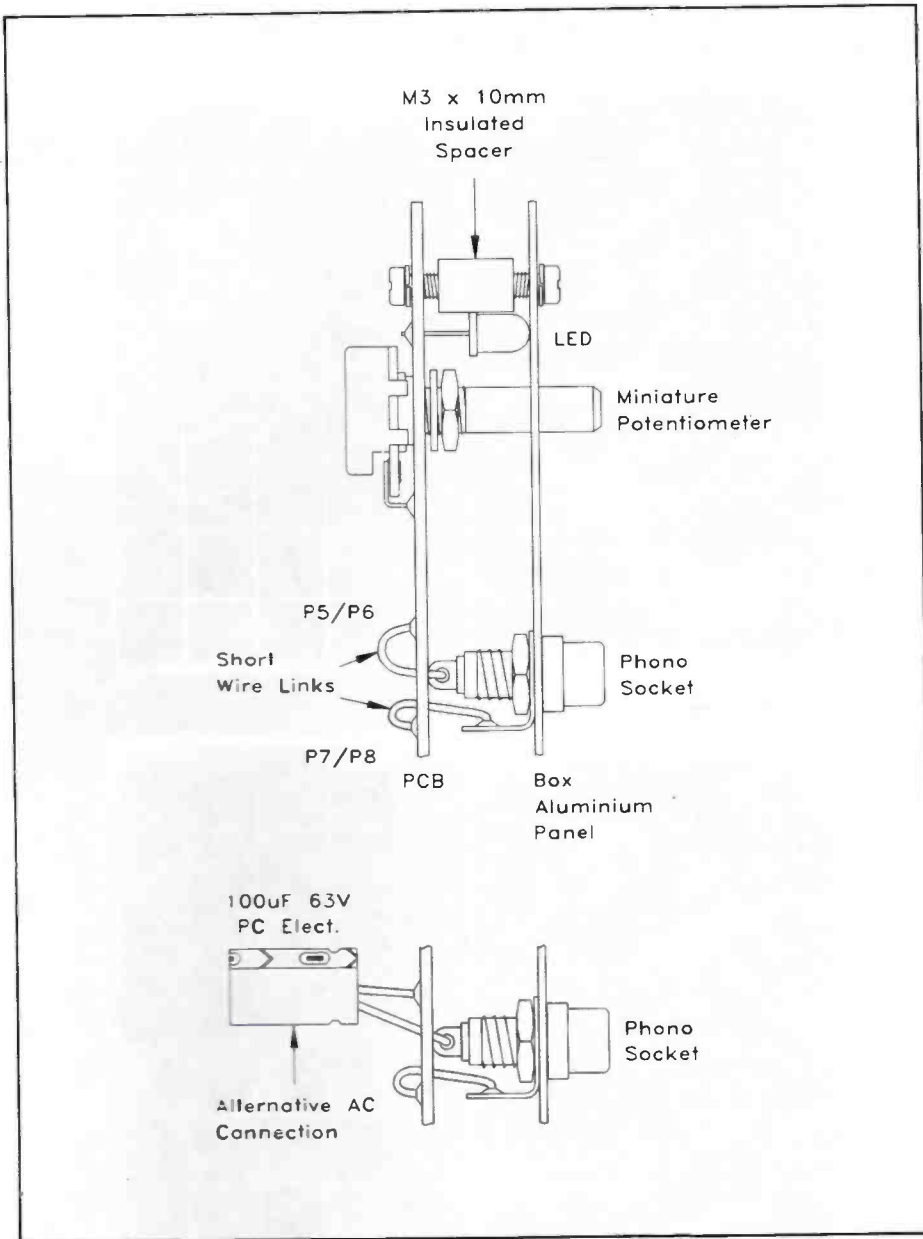

Figure 5. Mechanical assembly.
When installing the two miniature rotary potentiometers RV2 and RV6 follow the mechanical assembly information provided in Figure 5, ensuring that you fit the correct value pot at each position. When secured, bend down the tags so that they are touching the pads on the track side of the PCB and solder them as shown. The seven LEDs LD1 to LD7 are all mounted 5mm above the surface of the board, see Figure 5. The short lead of each LED is cathode (K); this is also denoted by a flat along one side of the package, which must match up with its outline on the PCB legend.
After preparing the front panel secure the two Phono sockets SK1 and 2 using the hardware provided, see Figure 5. Solder two short wire links on to each socket and position the solder tags so the wires do not have to cross over when the PCB assembly is attached to the front panel. It is also very important that these tags should not touch any of the components on the board as either could result in a short circuit.
Next mount the PCB assembly on to the front panel, using the four 10mm insulated spacers, and check that all seven LEDs have passed through the panel, see Figure 5. Now connect up SK1 and 2 to the following solder pads: SK1 Centre terminal to P5; SK1 Solder tag to P8; SK2 Centre terminal to P6; SK2 Solder tag to P7.
IMPORTANT! THE OUTPUT OF THE GENERATOR IS DC COUPLED. When connected to an established signal input there is unlikely to be any DC voltage present as AC coupling is normally provided within the equipment under test. However, if you intend to probe around inside circuits you *must* use a suitable DC blocking capacitor placed in series with the output of the generator. To ensure good low frequency coupling when injecting the signal in to an unknown, possibly low impedance circuit, it is normal practice to use a high value capacitor, typically 100 μ F or higher. In order to keep its physical size as small as possible a polarised electrolytic type is often used. To operate correctly you must ensure that it is placed the right way round and its voltage rating is high enough to accommodate the piece of equipment under test. Because the polarity and DC voltage level can change from circuit to circuit this component is normally kept as a temporary feature at the end of the test lead. However, if the type of circuits under test have a known maximum voltage and fixed polarity a suitable capacitor may be placed inside the generator, see Figure 5.